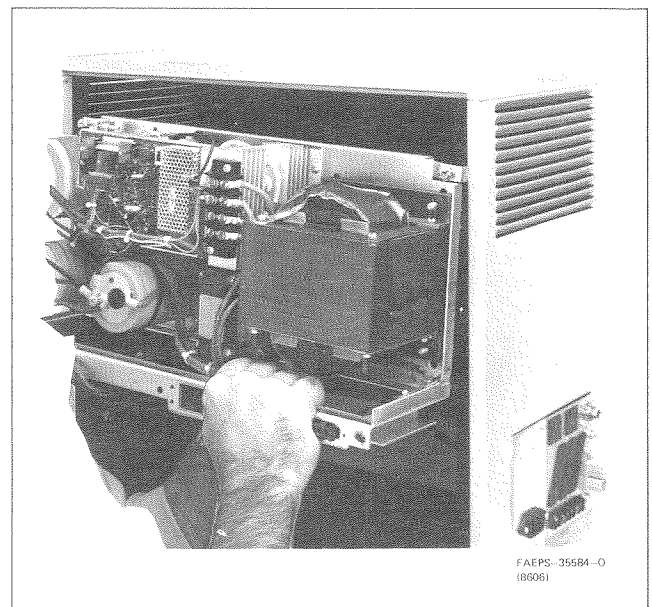

Figure 5. Power Supply Removed From Cabinet
Step 8. Brace your body to receive a heavy weight, and lift the power supply chassis free of the cabinet. See Figure 5.